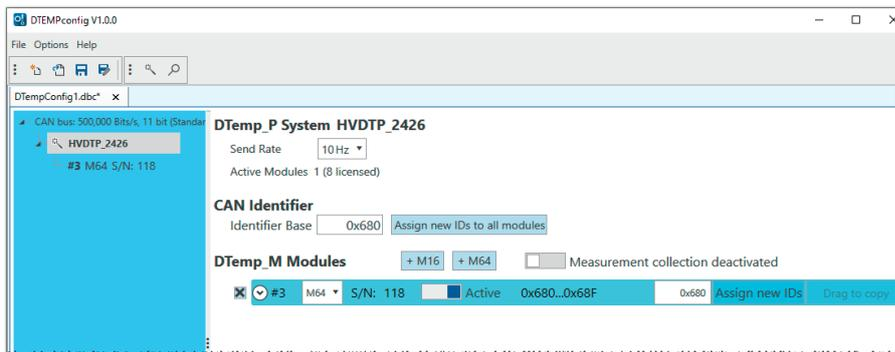

Fig. 5-21: Read-in configuration file
⇒ Detected components are listed on the left below the CAN bus level (Fig. 5-21).
- ▶ Controller level – Here the controllers connected to the central unit are displayed. The example in Fig. 5-21 shows an HV DTemp-M64 controller with the ID '3' and the serial number '118'. The setting options for a controller are grouped in a table in the right window pane in the **DTemp_M Modules** section. Each controller is provided with a separate table.